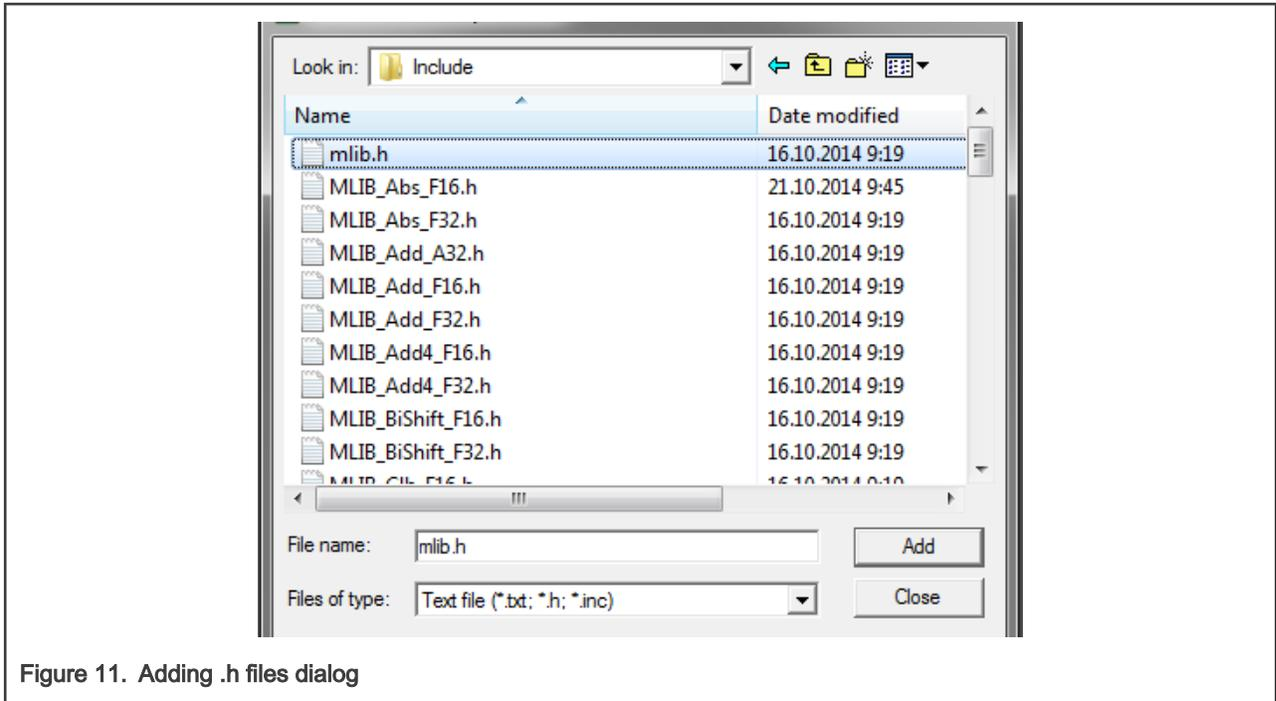

Figure 11. Adding .h files dialog
4. Navigate into the library installation folder C:\NXP\RTCESL\CM0_RTCESEL_4.7_KEIL\MLIB\Include, and select the *mlib.h* file. If the file does not appear, set the Files of type filter to Text file. Click Add. See Figure 11.